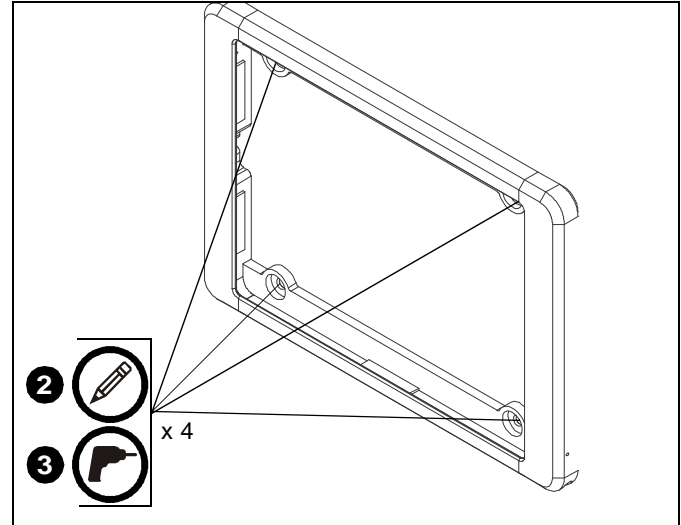

Figure 2
2. Using FSRI2T as a template, level and mark four holes at the four holes in FSRI2T. (See Figure 2)
3. Drill four 1/2" pilot holes at marked locations on wall. (See Figure 2)